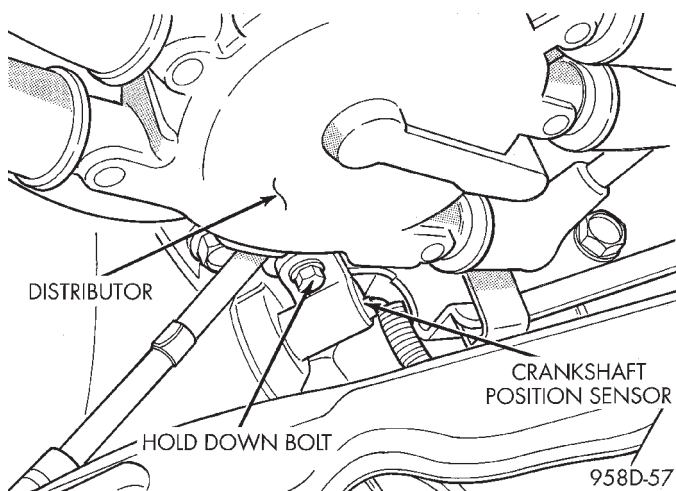

Fig. 52 Crankshaft Position Sensor
- (1) Remove speed control servo from driver's side strut tower.
- (2) Remove crankshaft position sensor retaining bolt (Fig. 52).